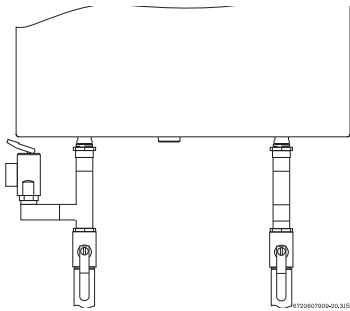

Fig. 33 Plumbing Connections and Pressure Relief Valve
- ▶ Full port shut off valves should be installed on both the cold water supply and hot water outlet lines to facilitate servicing the heater (see Fig. 33).
The listed pressure relief valve supplied with the heater must be installed at the time of installation. No valve is to be placed between the PRV and the heater. No reducing coupling or other restriction may be installed in the discharge line. The discharge line must be a minimum of 4" above a drain and installed such that it allows complete drainage of both the PRV and the line. The location of the PRV must be readily accessible for servicing or replacement, and be mounted as close to the water heater as possible. See Fig. 33. To install the PRV, a suitable fitting connected to an extension on a "T" fitting can be sweated to the hot water line. Support all piping.